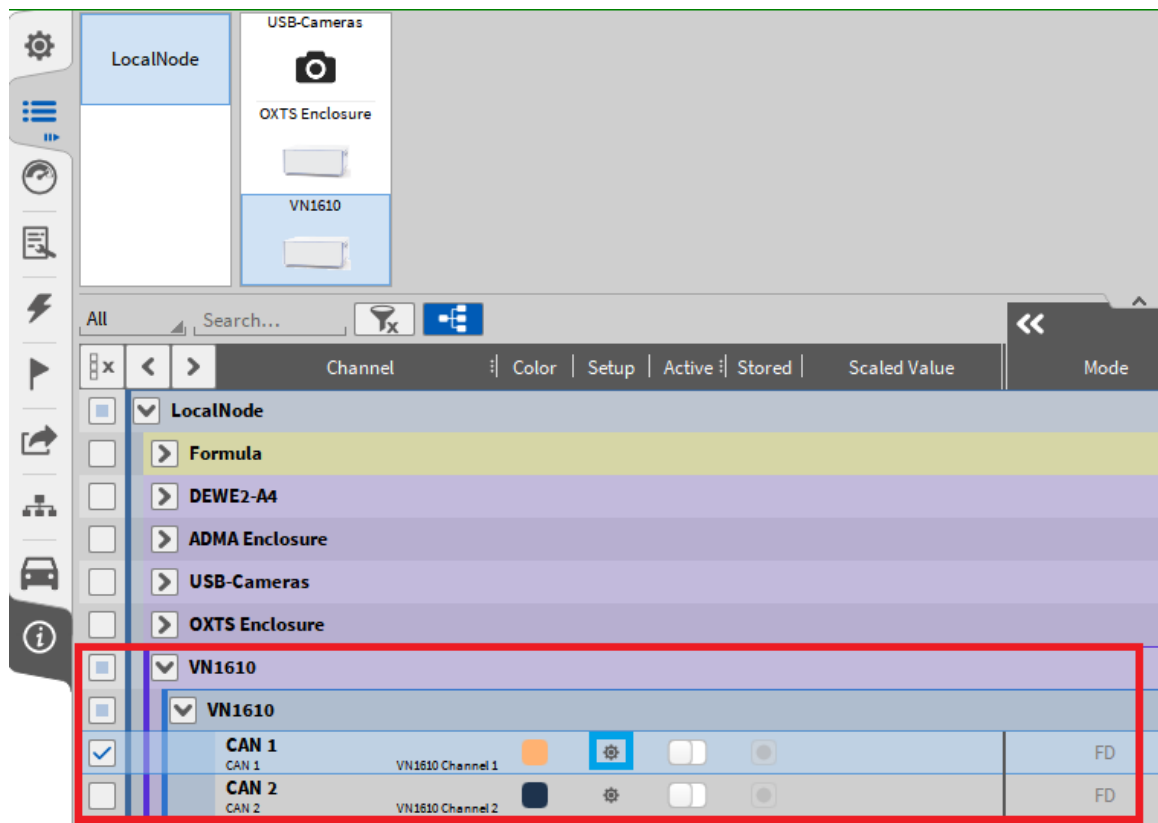
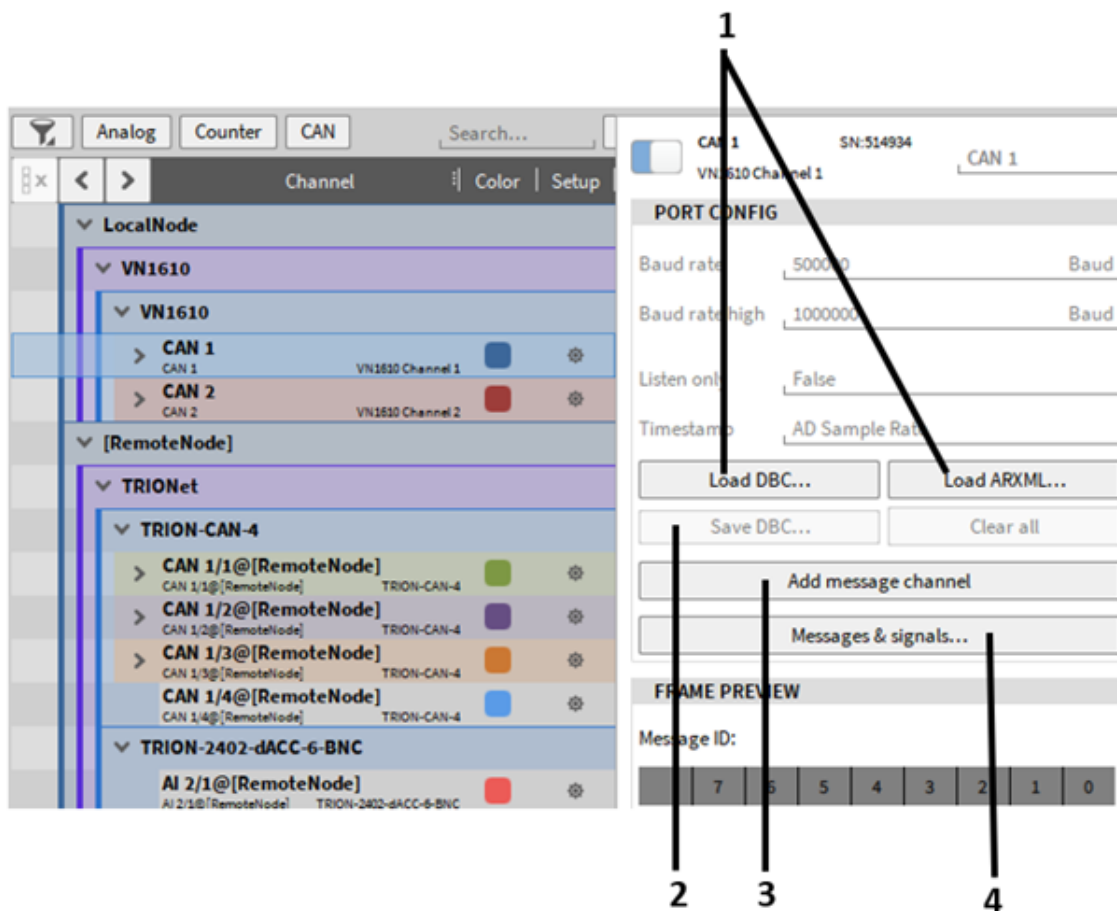

Fig. 4.50: Channel List with Vector VN hardware included
Fig. 4.51: CAN-FD channel settings
- Open the OXYGEN Channel List. The Vector Hardware channels will be visible in the section VNxxxx of the Channel List (marked red in Fig. 4.50).
- Click on the Gear button to open the Channel settings (marked blue in Fig. 4.50). The Baud rate and additional settings can be changed here and the dbc-file can be loaded (see Fig. 4.51).
- To select additional channels later on, just reload the dbc-file and pick more channel in the channel picker dialog. The *Clear all* (Fig. 4.51) buttons deletes the current channel selection.